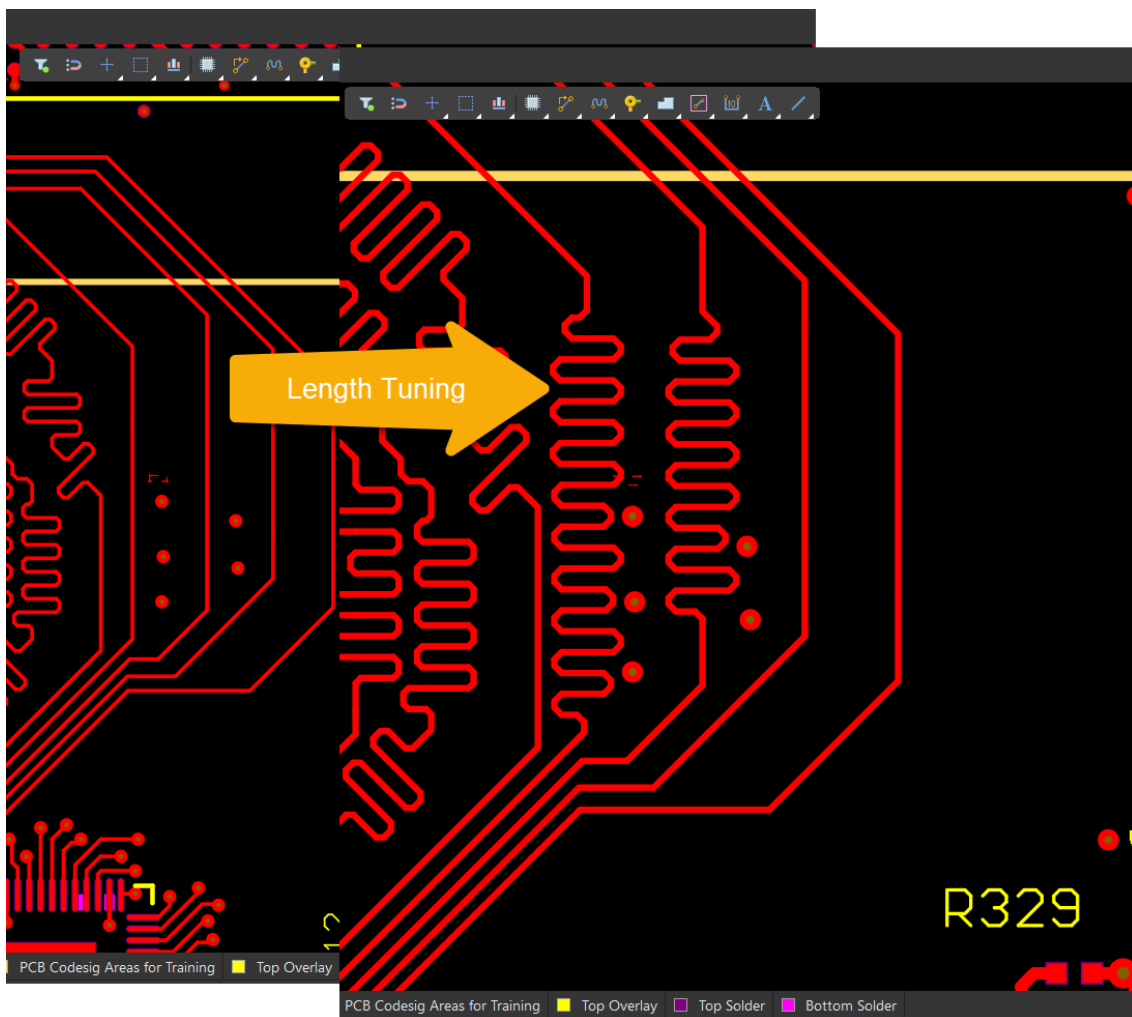

Figure 9. Length Tuning
22. Repeat Step 21 for the net `USB3_D26`, as seen in Figure 9.